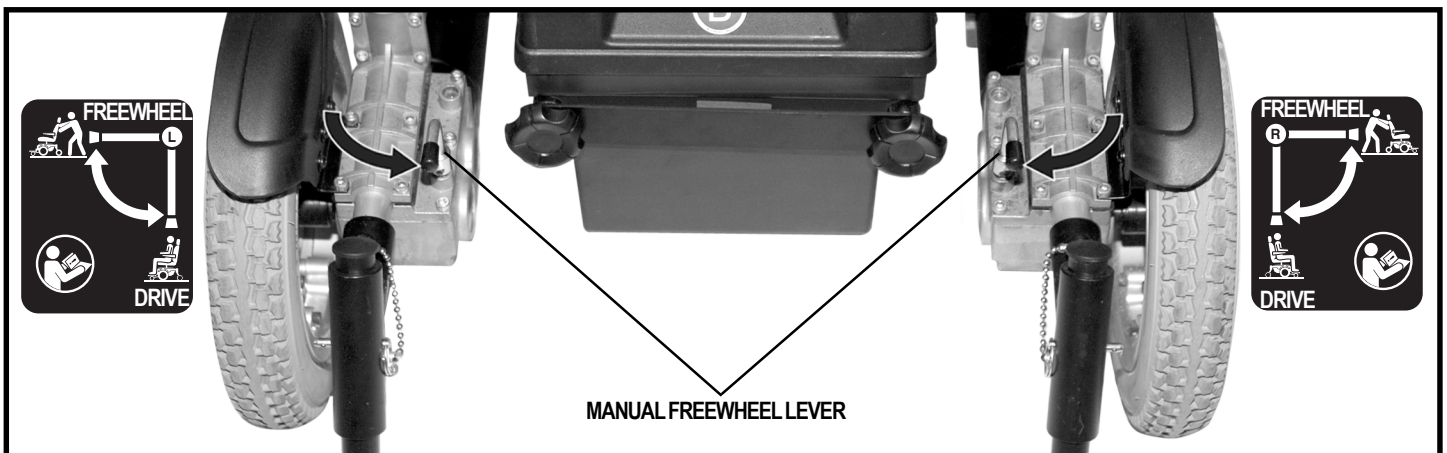

Figure 11. Drive Mode (Drive Engaged)
3. Rotate the two levers inward to engage the drive motors (drive mode). See figure 11.
17. Ensure the chair is in drive mode. See figure 11. If necessary, tilt the chair forward to gain ground clearance, and then install the anti-tip wheels by inserting the safety pin (clasp style) in the desired holes at the desired height. See figure 21.
2. Place the chair in drive mode. See figure 11.
9. Place the chair in drive mode. See figure 11.